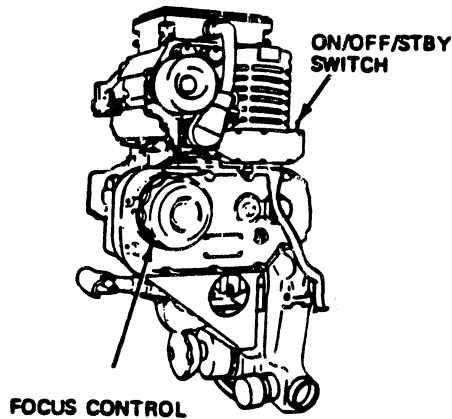

Fig 3-6. Night sight/day sight tracker
Step 9. Set the ON/OFF/STBY switch to ON on the night sight and set the focus control on the day sight tracker to the +3 position (fig 3-6).